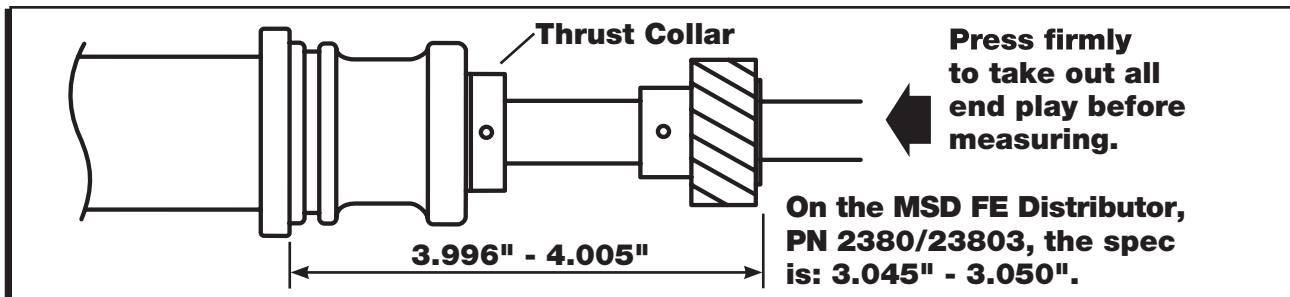

Figure 6 Gear Installation Specifications
1. With the end play of the distributor shaft removed, measure the distance from the bottom of the gear to the bottom of the mounting flange (Figure 6). It should be within the specifications shown.
5. Press the new gear into position on the shaft. Measure the distance as shown in Figure 6 before drilling the new roll pin hole.